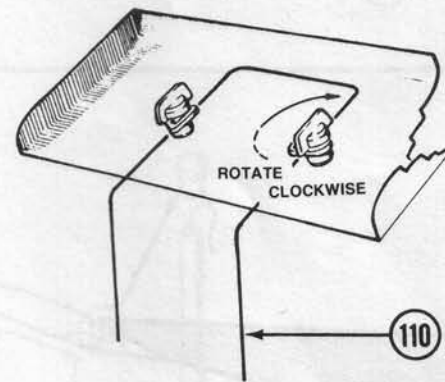

FIG. 53
15. Insert the wing wire (110) from the back and through the wing buttons (112) (113) until the wing is in the desired position. Fig. 53.